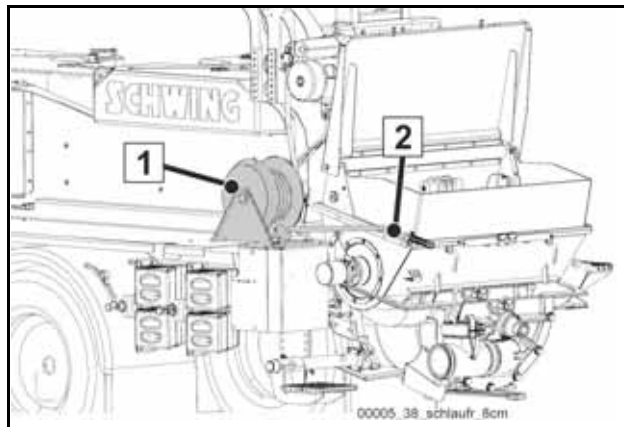

Fig. 197 Hose reel; similar to illustration
A hose reel (1) for the spray hose (2) (**Fig. 197**) is available as an option. In this variant, the connection (9) (**Fig. 186**) is no longer required.